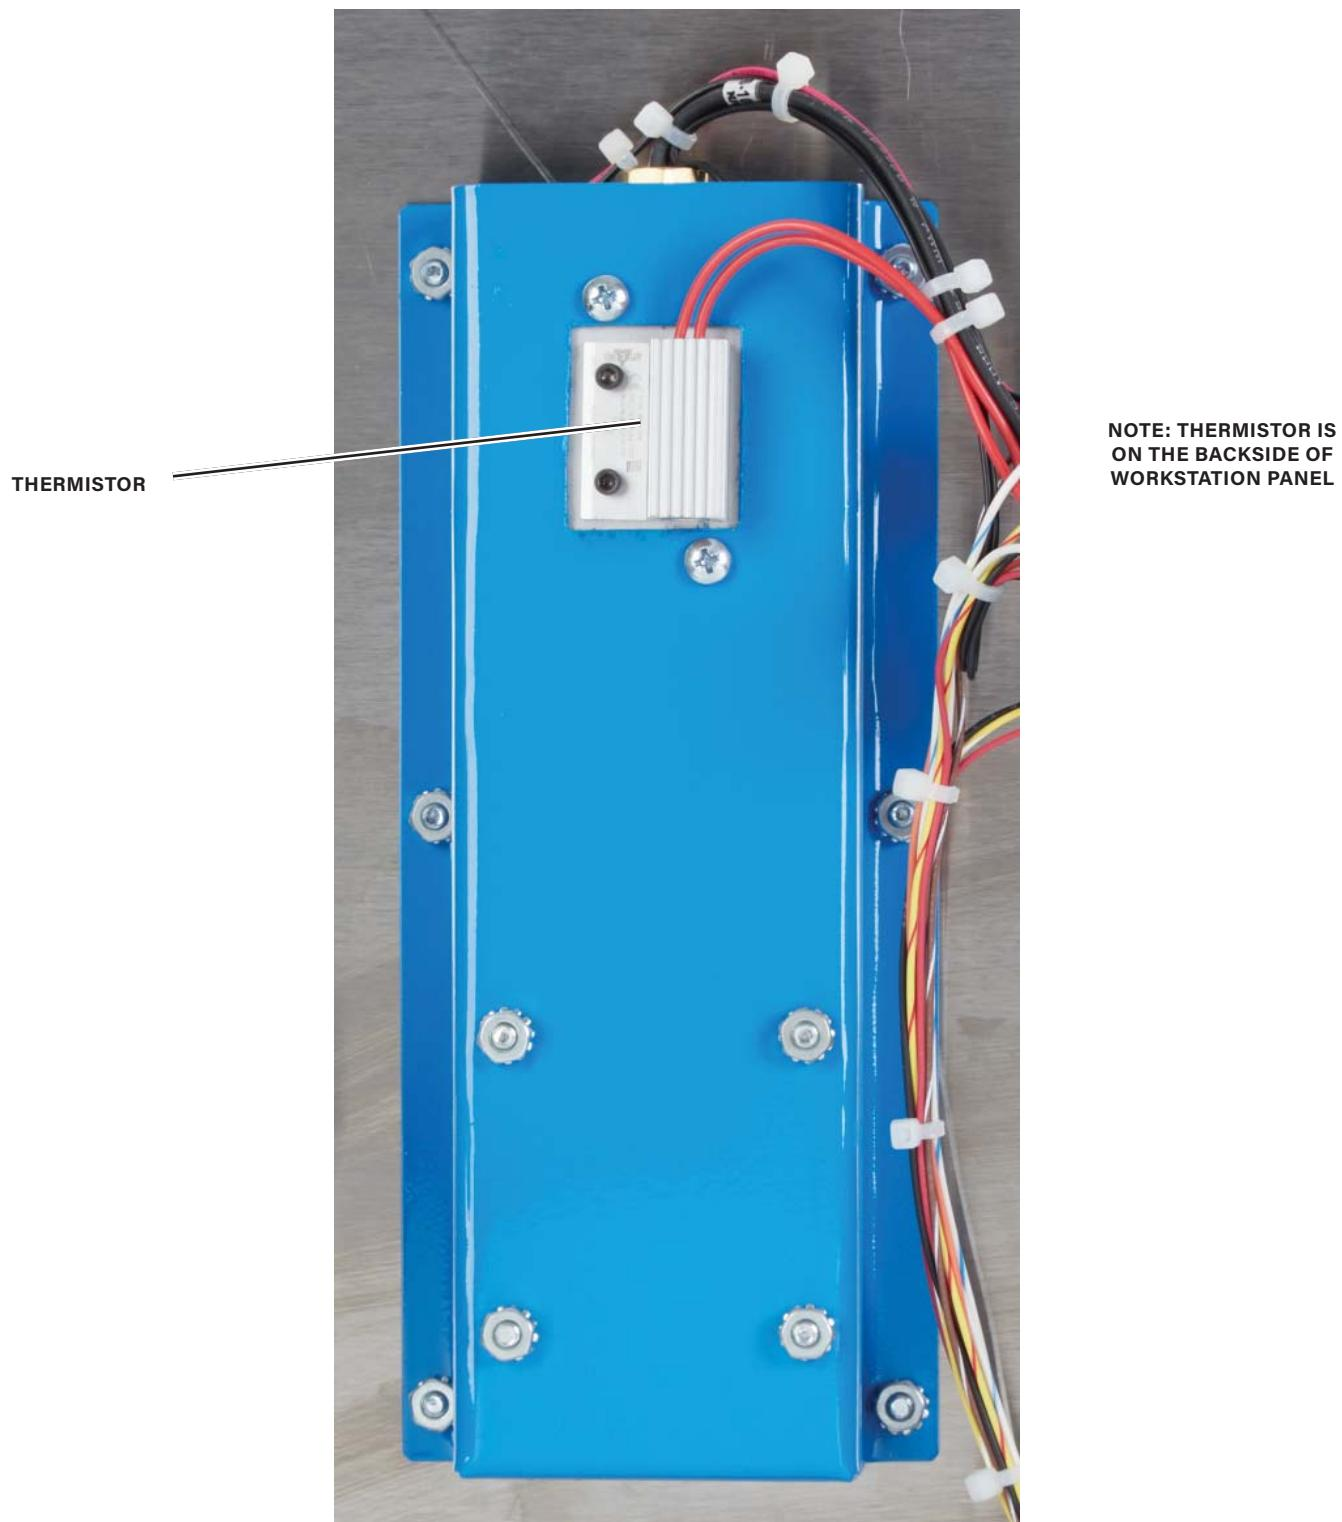

Figure 3-8. Thermistor
B. Examine the image of the temperature sensor used in the heating application system shown in figure 3-8.